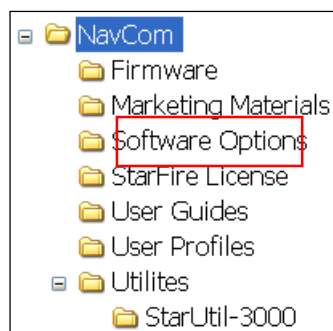
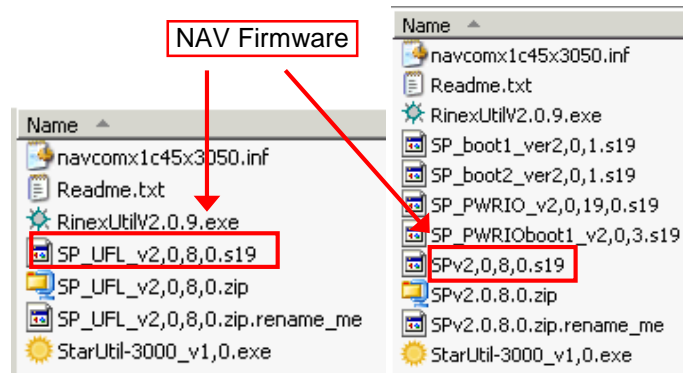

Figure 2: NavCom Sub-Folders on PC
Figure 9: Firmware Folder
12. On the PC, create two folders in the NavCom folder for the Software Options File and the StarFire License (see Figure 2).
- Browse to Navcom\Utilities\StarUtil 3000 on the PC (see Figure 2).
21. Browse to the NavCom\Firmware folder on the PC (see Figure 2). The Firmware folder is copied from the SF-3050 Product Configuration USB Flash Drive. It contains the *most current firmware* (see example files in Figure 9). The firmware file extension is \*.s19.
28. Browse to NavCom\Firmware on the PC (refer to Figure 2). The Firmware folder contains the *most current firmware*. The firmware file extension is \*.s19.